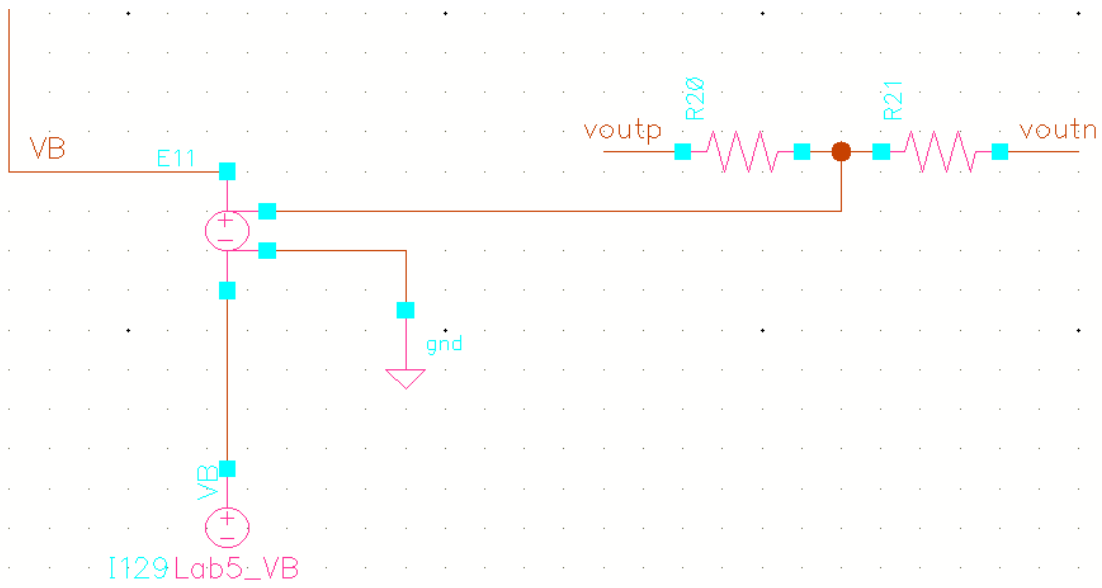
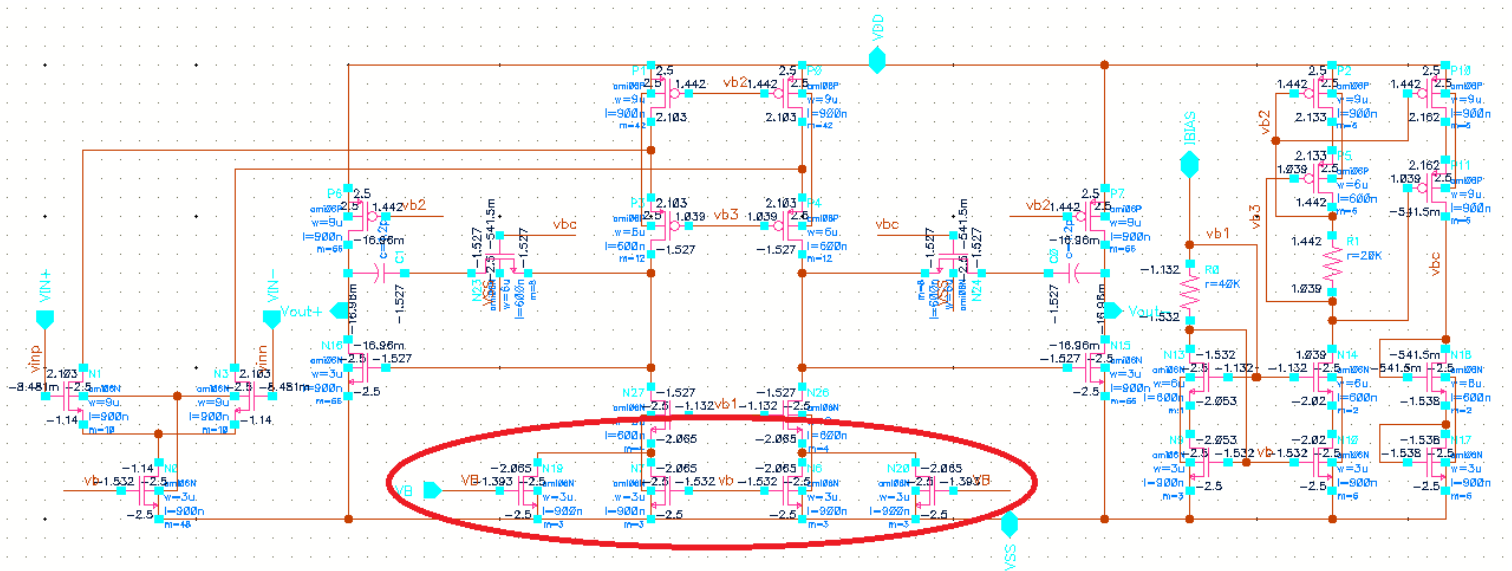

Fig 3
Fig 4
2. The solution to this problem is to use feedback to the correct biasing voltage. The circuit is shown in Fig 3. You can also change the given amplifier to introduce the feedback node (for example, split the load NMOS transistors into four identical transistors with middle two ones biased by the current mirror and the other two ones connected to the feedback node as shown in Fig 4).
3. To test the CMFB loop, add a "vdc" between the CMFB node of the op amplifier and the output of the CMFB amplifier as shown in Fig 3.